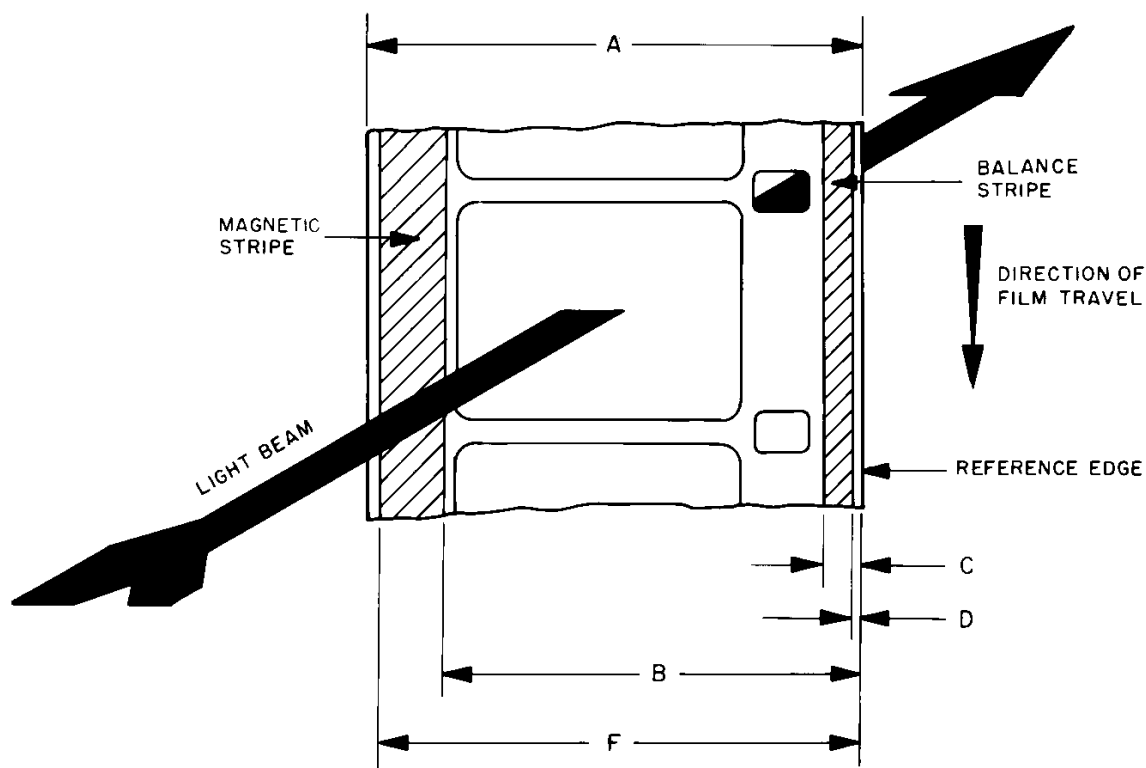

Figure 1 – Magnetic striping location
**3.1** The location and dimensions of the magnetic striping shall be as given in figure 1 and table 1.